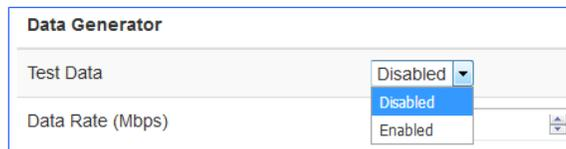

Figure 101: Data Generator, Test Data Drop Down Menu
- Test Data – Enable or disable test data generation, as shown in Figure 101